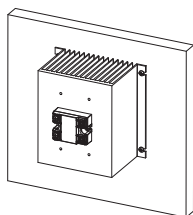

fig. 3 Panel Mounting
- ◆ For Panel Mounting install as shown in **fig. 3**. Recommended screw size is 8-32 (UNC standard) or M4 (metric).